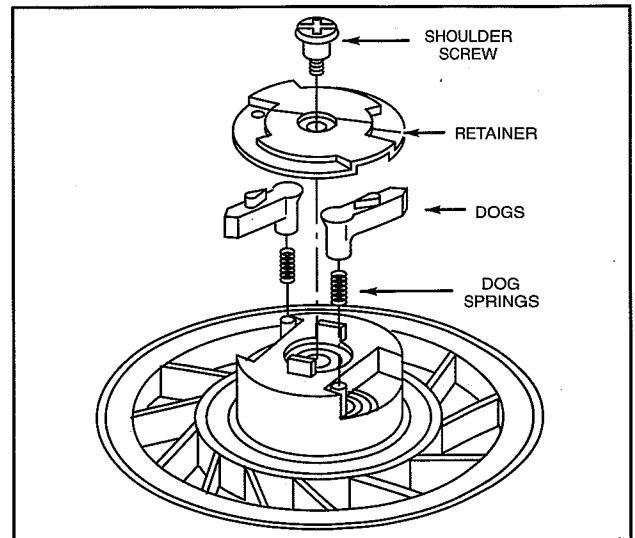

Fig. 8 – Remove Retainer – Current Style
2. Remove shoulder screw and retainer, Fig. 8.